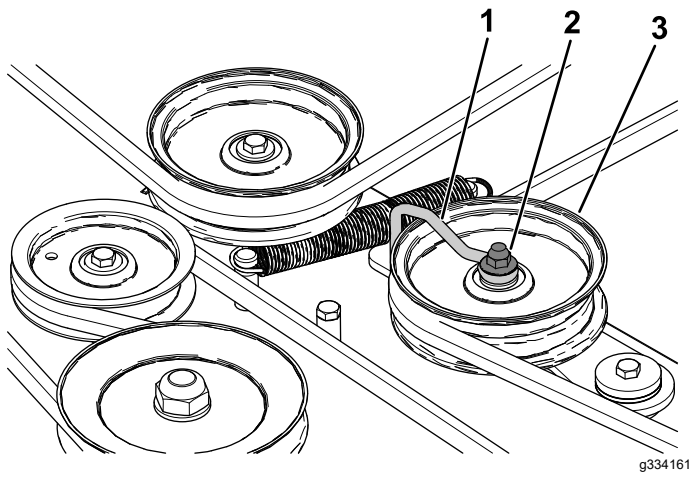

Figure 51
5. Loosen the nut securing the wire form to the idler pulley (Figure 51).
- 9. Tighten the nut securing the wire form to the idler pulley (Figure 51).
Note: Position the wire form against the idler arm as shown in Figure 51.